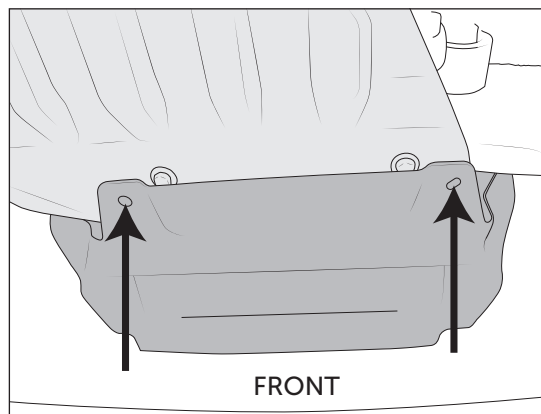

Figure 4
4. Push the splash guard into place against the Engine Skid and mark the two hole locations (fig. 4).